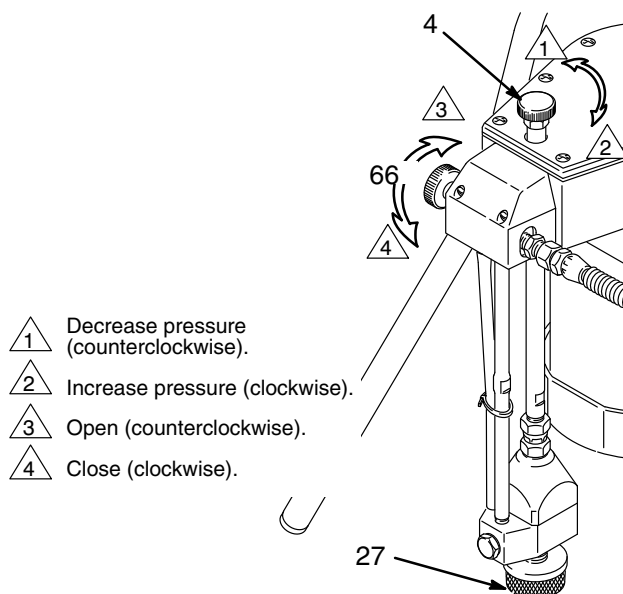
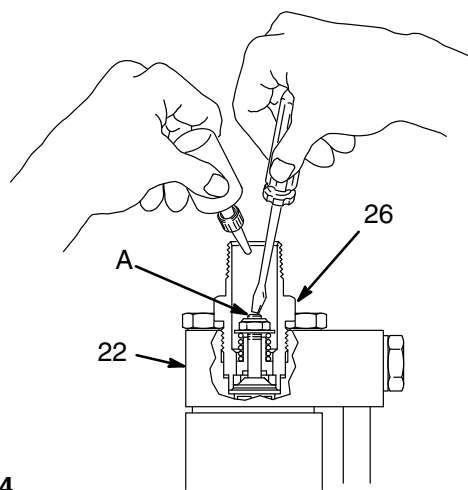

Fig. 3
Fig. 4
1. Open the bypass valve (66) ONE turn **counterclockwise**. Do not place the pump intake in the pail yet. See Fig. 3.
2. Turn the pressure control fully (4) **clockwise** to increase pressure. See Fig. 3.
3. Remove the inlet strainer (27) and place your hand over the inlet valve to be sure it is drawing a vacuum.
**NOTE:** If the inlet valve (26) is not drawing a vacuum, turn the sprayer OFF. Turn the sprayer over. Press down on the stem (A) inside the inlet valve lightly with a small screwdriver, and pour about a teaspoon of mineral spirits or solvent into the valve. See Fig. 4. Release the valve and turn the sprayer upright. With the pressure turned up, turn on the sprayer. This should free any sticking parts in the pump. Now check again for a vacuum. Shut off the sprayer and install the inlet strainer (27).
5. Turn the sprayer ON and allow the paint to circulate through the bypass valve (4) for one or two minutes.
6. Turn the bypass valve (66) **clockwise** (finger tight) to close it; this allows the pump to build up pressure.